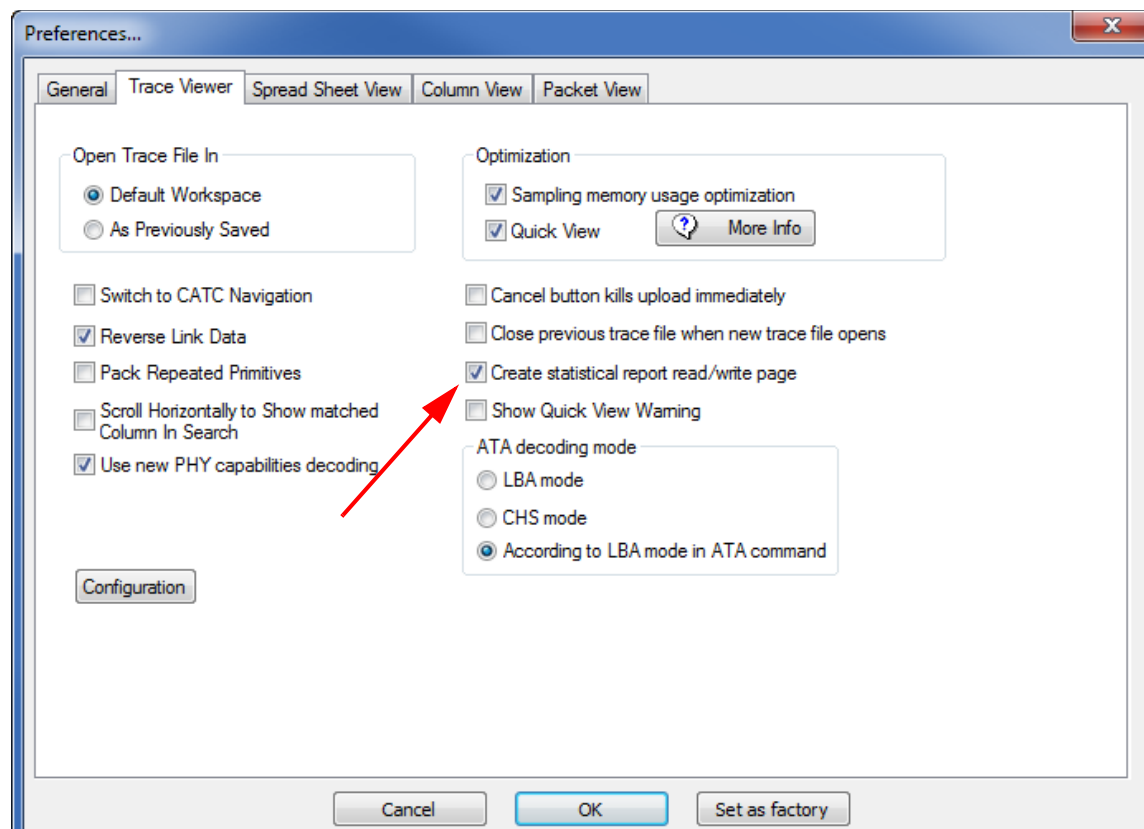

Figure 3.21: Enabling Read/Write Statistical Report
3. Check the box **Create statistical report read/write page** (see Figure 3.21 on page 123).